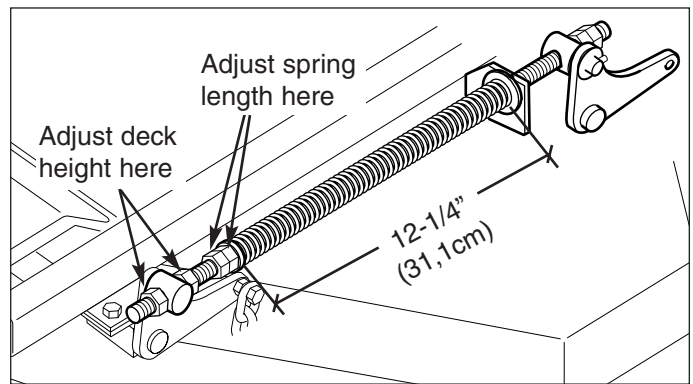

Figure 31. Mower Deck Adjustment
3. Adjust the 5/8" hex nuts on either side of the front spring rod pivot (see Figure 31) until the rear lower edge of the mower deck directly behind the chain is 3-5/8" (9,2cm) from the floor.
5. With the deck height adjustments complete and cutting height still set at 4", adjust the deck lift spring to a compressed length of 12-1/4" (31,1cm). Be sure to measure the spring only. Adjust the length of the deck lift spring by tightening or loosening the (2) 5/8" hex nuts that are closest to the spacer at the front end of the spring (see Figure 31). After adjustment is made, tighten these two nuts together. Perform this step to both springs.